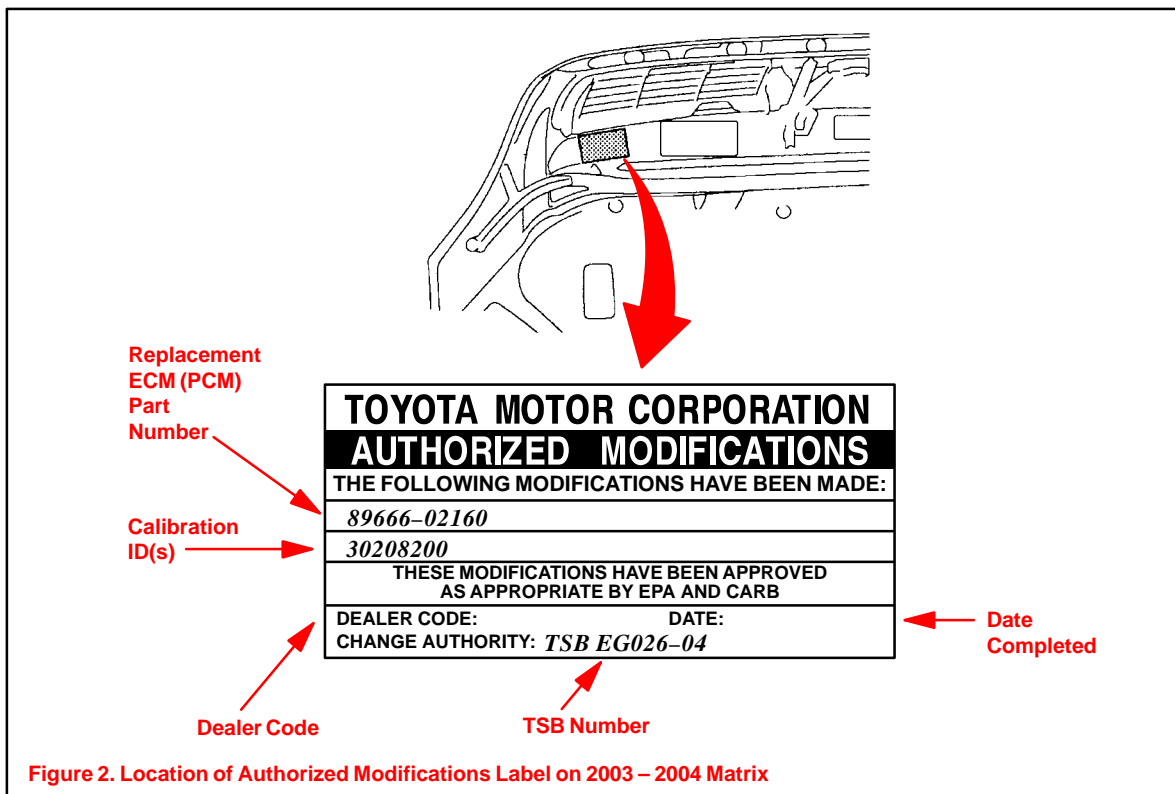

Figure 2. Location of Authorized Modifications Label on 2003 – 2004 Matrix
**October 8, 2004: Part number for replacement ECM (PCM) in Figure 2 on page 5 has been updated; Reference to section in Technical Information System (TIS) has been updated in "ECM (PCM) Replacement Procedure" on page 5. The previous TSB should be discarded.**
1. Check for the Authorized Modification Label affixed to the vehicle in the location shown in Figure 2 on page 5. If there is no label present, proceed to step 2.
7. Enter the following information on the Authorized Modification Label shown below in Figure 2 using a permanent marker.